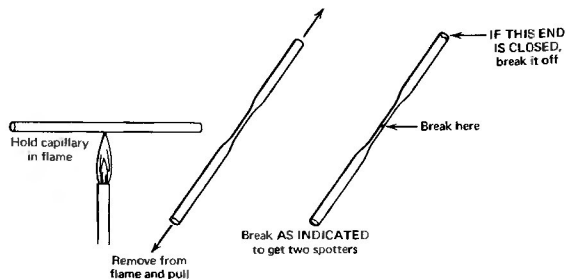

Fig. 119 Making capillary spotters from melting point tubes.
- Quickly** remove the capillary from the flame, and pull both ends (Fig. 119). If you leave the capillary in the flame too long, you get an ob-scene-looking mess.
- Break the capillary at the places shown in Fig. 119 to get **two spotters** that look roughly alike. (If you've used capillaries with *both ends open already*, then you don't have a closed end to break off.)